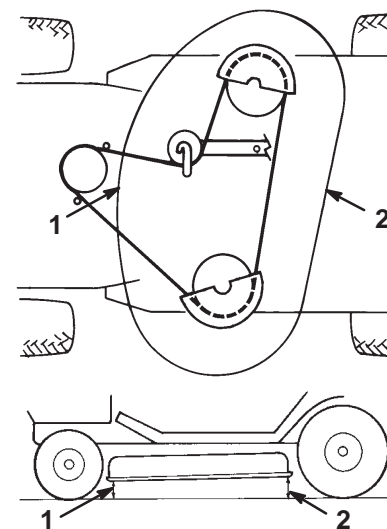

Figure 50
- Check the front-to-rear slope by measuring between the bottom of the mower (front center and rear center) and the flat surface (Fig. 50). If the front is not within a range of 1/8 to 3/8 in. (3 to 10 mm) lower than the rear, an adjust it.